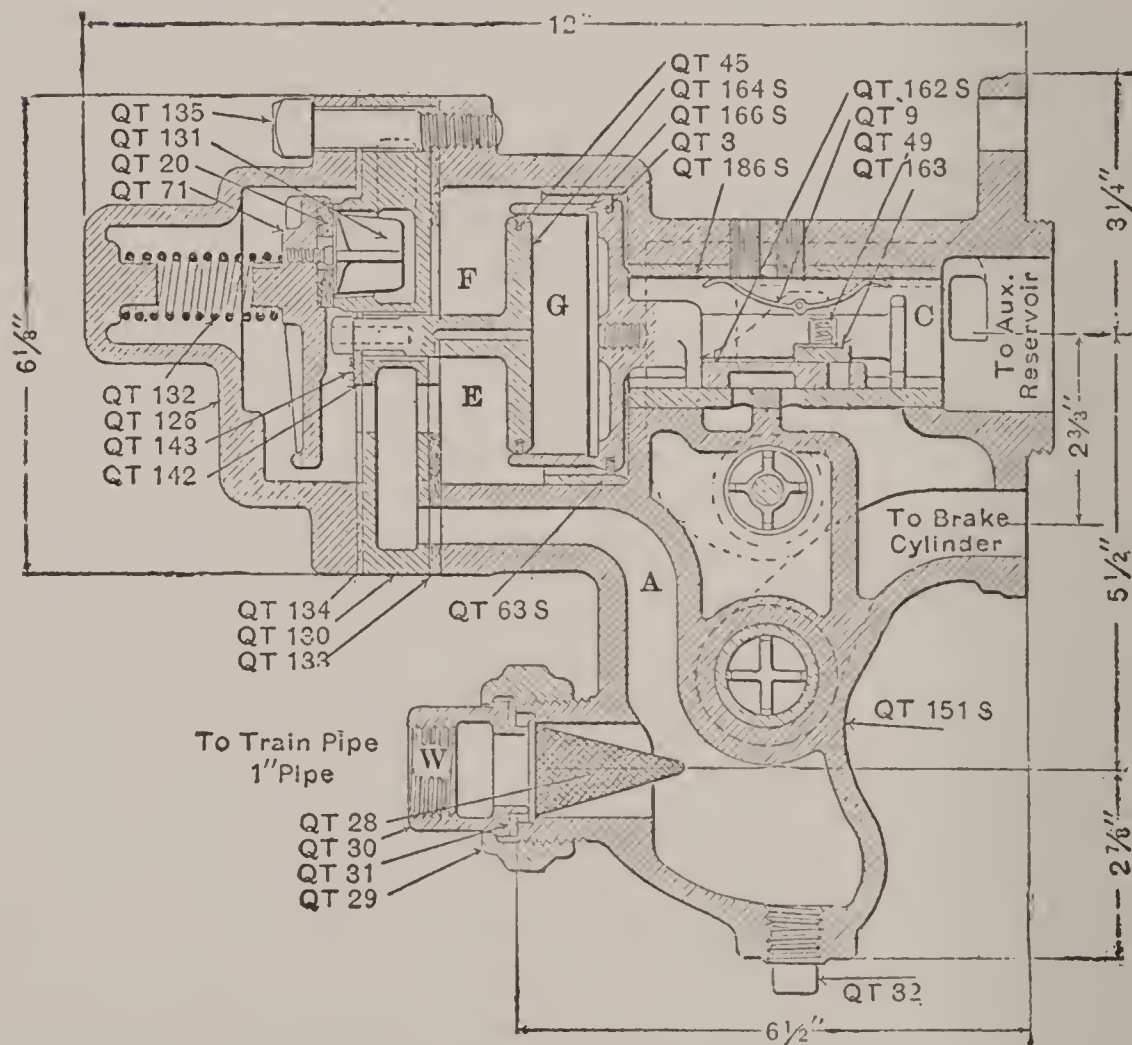

Fig. 32.
**List of Parts.** The names of the parts of this new style of valve as shown in Figs. 32 and 33, are as follows:
**Graduating Valve and Ports.** This style of valve used on 12, 14 and 16 inch brake cylinders is larger than the ordinary quick action triple valve; it has a large graduating port for the air to pass through to the brake cylinder; it also has a larger exhaust port and exhaust valve QT 162S and has the graduating valve QT 163 mounted on top of exhaust valve QT 162S (Fig. 32).